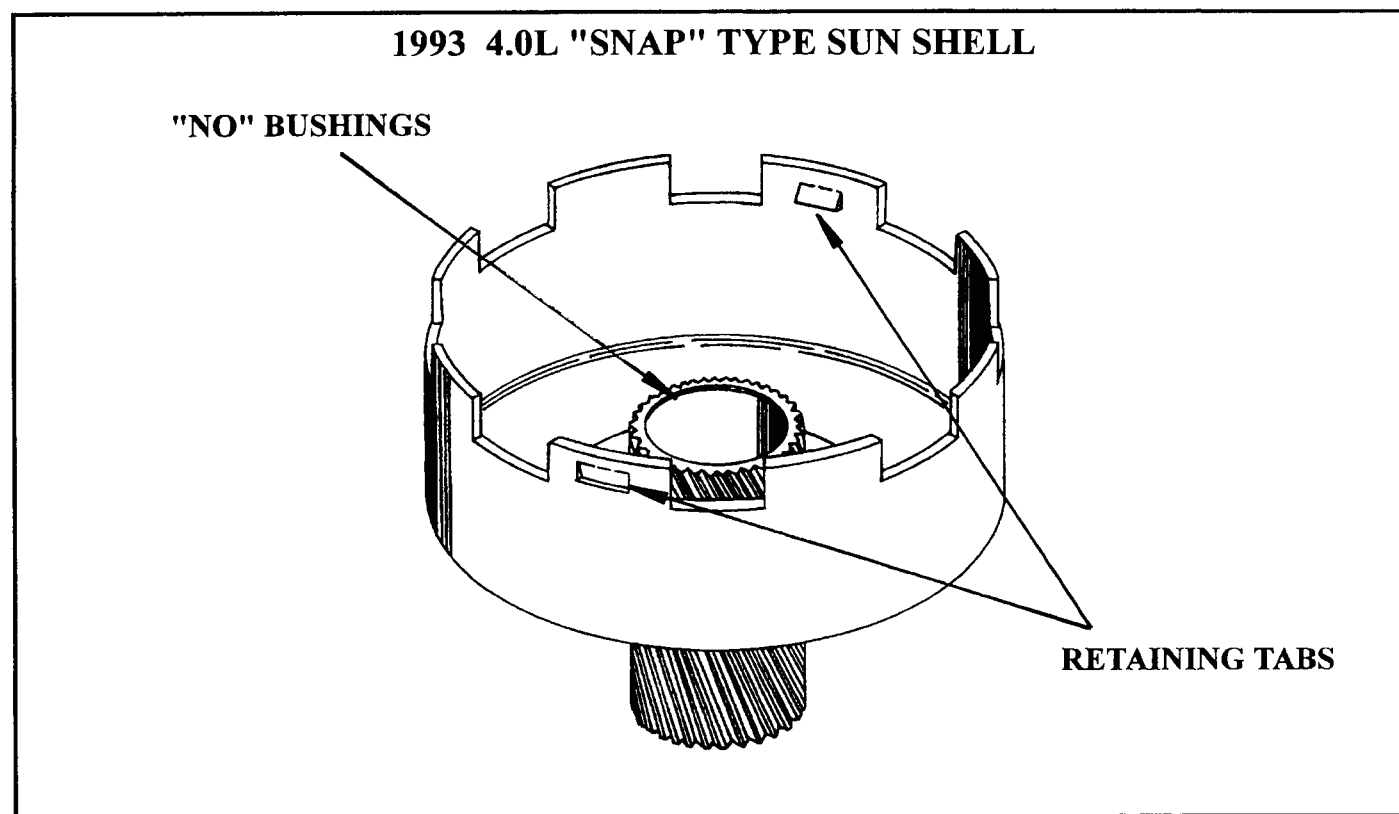

Figure 34
- (3) **SUN GEAR SHELL** - "Snap Shell" was introduced in 1993 4.0L models, and has two retaining tabs stamped into the sides 180° apart, as shown in Figure 34. These tabs are used to retain the new direct clutch drum in the sun gear shell. The flat steel thrust washer (No. 14) on the back side of sun gear shell was eliminated when the sun gear bushings were eliminated.